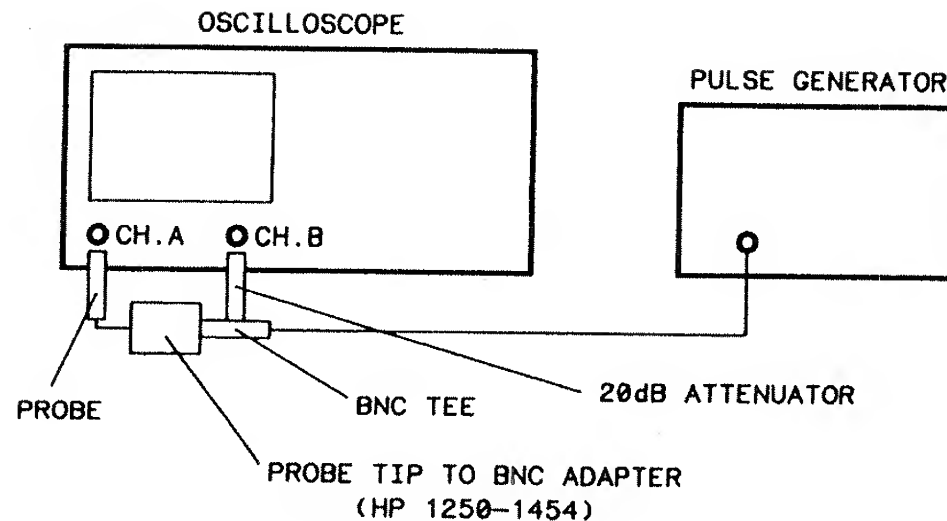

Figure 6. High-frequency Compensation Test Set-up
4. Connect equipment as in figure 6.